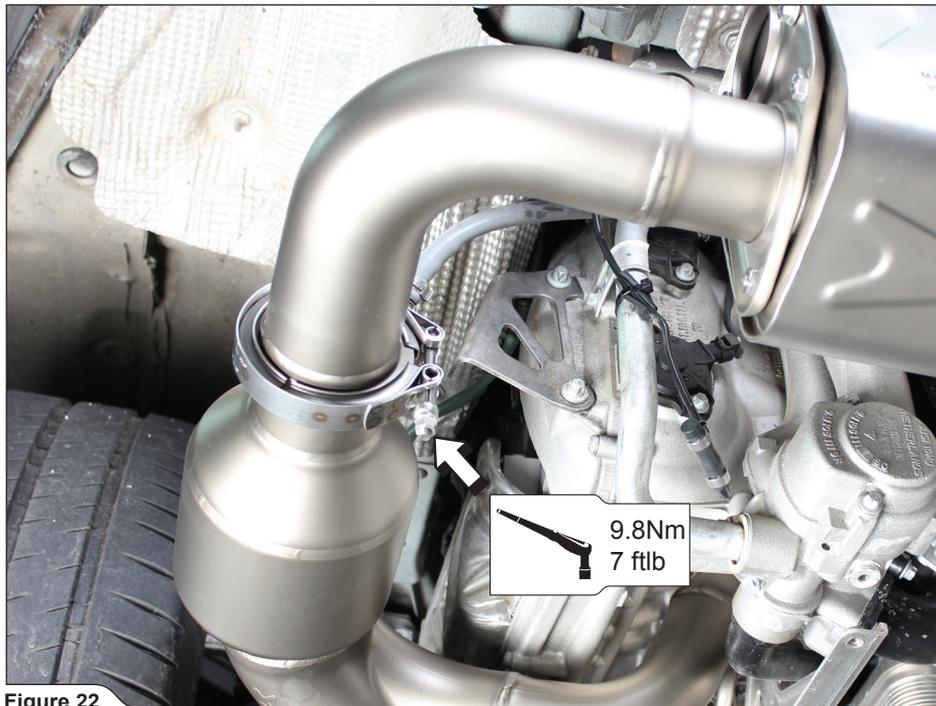

Figure 22
7. Tighten Akrapovič V-clamps on both side of the vehicle to the specified torque (**Figure 22**).